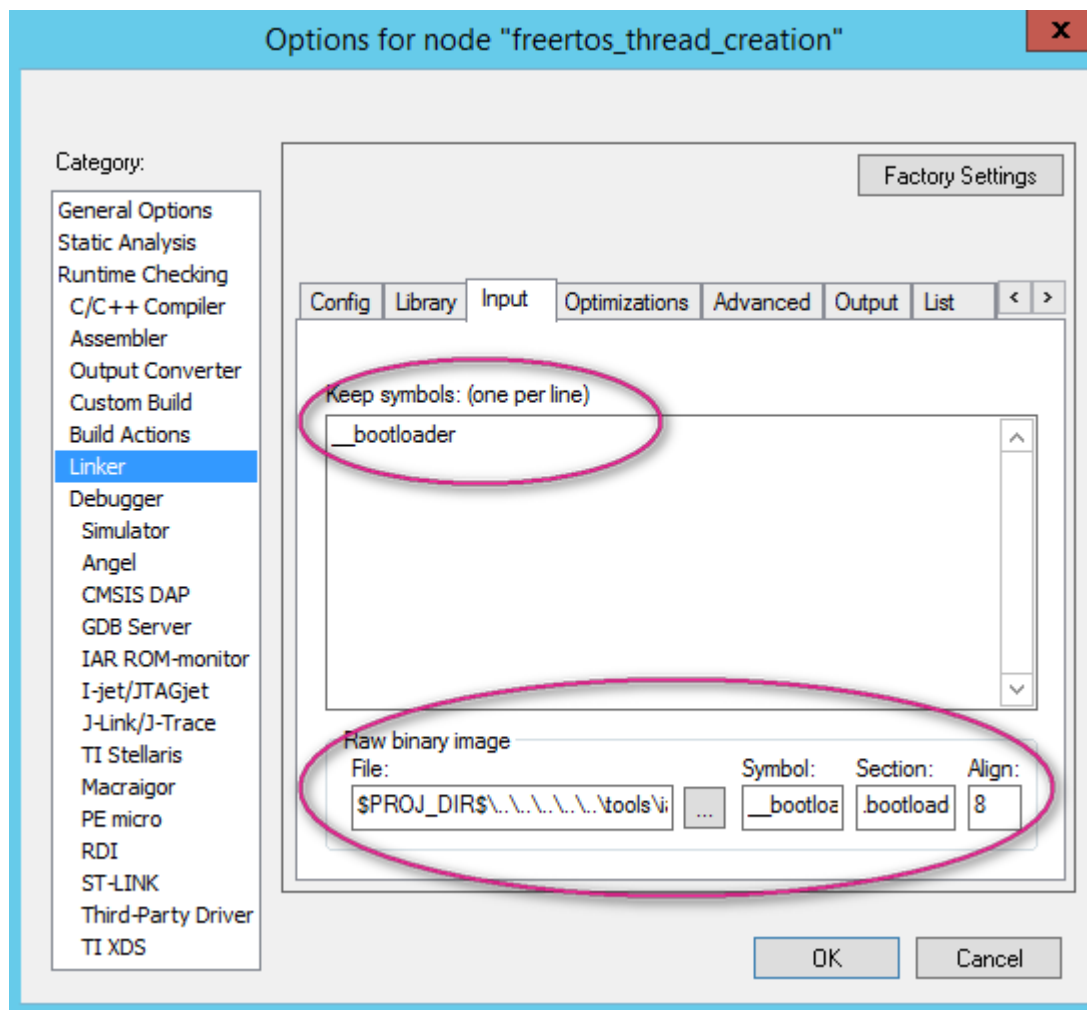

Figure 68. Set extra download Image
- 5) Choose Linker and Navigate to the input tab to modify setting as below, as shown in Figure 68.